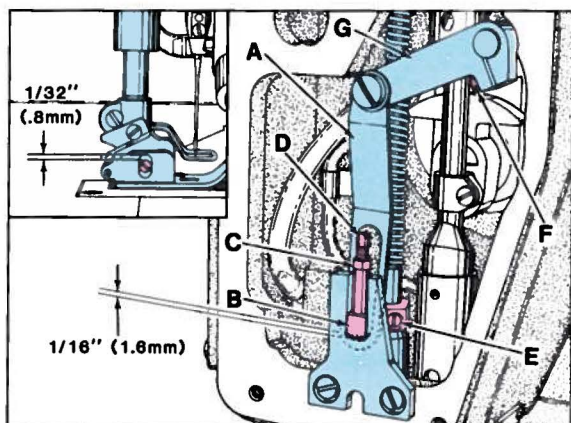

Fig. 18
With needle bar at bottom of stroke and presser foot resting on throat plate, there should be 1/32 inch (.8mm) clearance between top of screw and top of slot in presser foot as shown in Fig. 18. There should be 1/16 inch (1.6mm) clearance between bottom of slot in lifter lever link (A) and bottom of presser bar guide (B) when foot lifter lever is released.